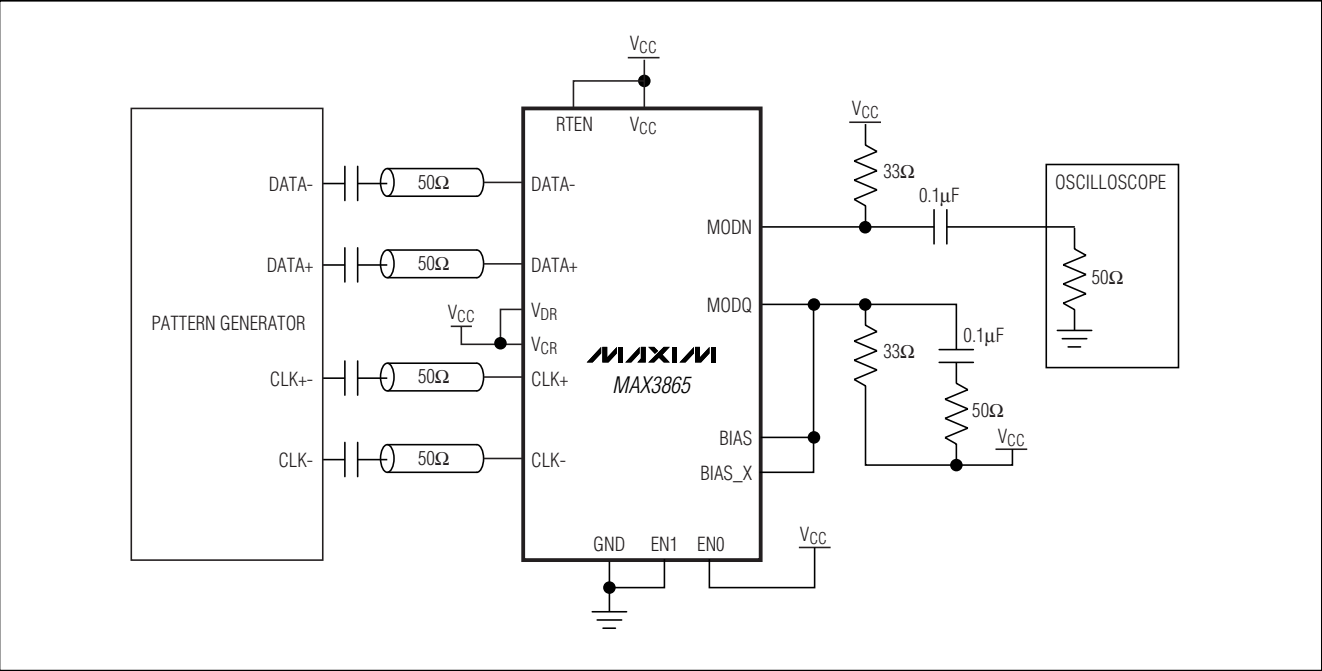

Figure 1. Test Circuit
**Note 1:** AC characterization performed using the circuit in Figure 1.